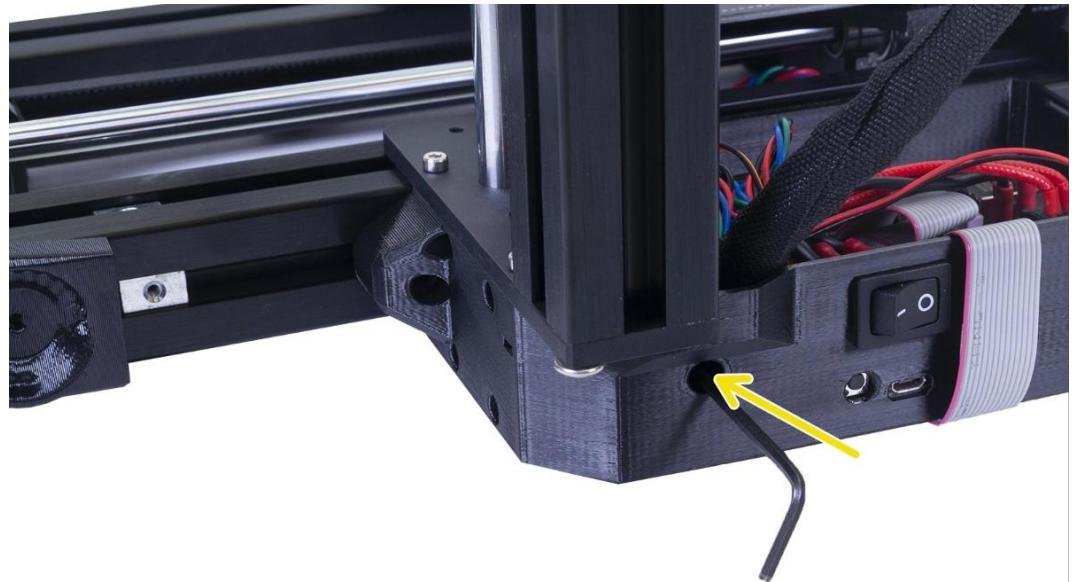

Figure 5.1.11
**D:** As shown in Figure 5.1.11. Use the M3x40 screw to connect both parts. In case you can't reach the thread of the nut, wiggle with the screw a bit inside the plastic base of the printer. **DON'T tighten the screw fully yet!**